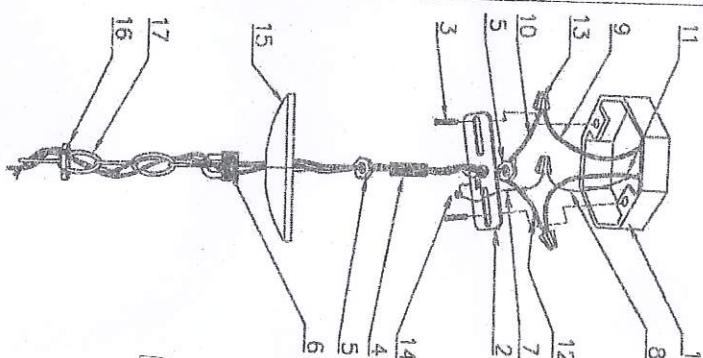

FIG. 1
1. Take the parts out of the mounting package. Screw the end of the NIPPLE (4) into the center hole of the MOUNTING BRACKET (2) and thread both 1/8" IPS HEX NUTS(5) several turns onto each end of the NIPPLE(4) but do not tighten the 1/8" IPS HEX NUTS (5). Pull the SUPPLY WIRES (9 & 11) and the SUPPLY GROUND WIRE (8) out from the OUTLET BOX (1) and attach the MOUNTING BRACKET (2) assembly to the OUTLET BOX (1) using the slotted holes of the MOUNTING BRACKET (2) and the MOUNTING SCREWS (3) provided. (See Fig. 1)
2. Thread the SCREW COLLAR LOOP (6) onto the bottom end of the NIPPLE (4). Place the CANOPY (15) over the OUTLET BOX (1) and adjust the SCREW COLLAR LOOP (6) and NIPPLE (4) until the midpoint of the outside threads on the SCREW COLLAR LOOP (6) is centered (aligned) with the surface of the CANOPY BRACKET (2) and the SCREW COLLAR LOOP (6). (See Fig. 1)
3. Thread the FIXTURE LOOP(18) onto the FIXTURE(19) till tight.
4. Open up the end links of the CHAIN (17) and attach one end of the CHAIN (17) onto the FIXTURE LOOP (18). Slide the THREADED RING (16) and the CANOPY (15) onto the CHAIN (17) (in that order) and attach the other end of the CHAIN (17) to the SCREW COLLAR LOOP (6). Close the ends of the chain links. (See Fig. 1 and 2)
5. Unravel the fixture lead wires(10 and 12) and FIXTURE GROUND WIRE (7) and thread them through every other link of the CHAIN (17) starting with the chain link attached to the FIXTURE LOOP (18). Feed the fixture lead wires(10 and 12) and FIXTURE GROUND WIRE (7) through the SCREW COLLAR LOOP (6) and NIPPLE (4) assembly. Pull the fixture lead wire(10 and 12) and the FIXTURE GROUND WIRE (7) upward to remove any excess slack. (See Fig. 1)
6. Attach the power supply wires to the fixture lead wires by connecting the BLACK SUPPLY WIRE (9) to the SMOOTH FIXTURE LEAD WIRE (10) and the WHITE SUPPLY WIRE (11) to the RIBBED FIXTURE LEAD WIRE (12). Loop the FIXTURE GROUND WIRE (7) around the GROUND SCREW (14) of the MOUNTING BRACKET (2). (Note: Be sure to provide an extra 3" length of the GROUND WIRE(7).) Connect the remaining FIXTURE GROUND WIRE (7) to the SUPPLY GROUND WIRE (8) using a WIRE CONNECTOR (13). Place wiring and connections inside the OUTLET BOX (1). (See Fig. 1)
7. Slide the CANOPY (15) and the THREADED RING(16) up the CHAIN(17). Place the CANOPY (15) over the OUTLET BOX (1) and secure it in place by screwing the THREADED RING (16) onto the SCREW COLLAR LOOP (6). (See Fig. 1)
8. Slide the GLASS SHADE(21) over the SOCKET(20), secure with the SOCKET RING(22).